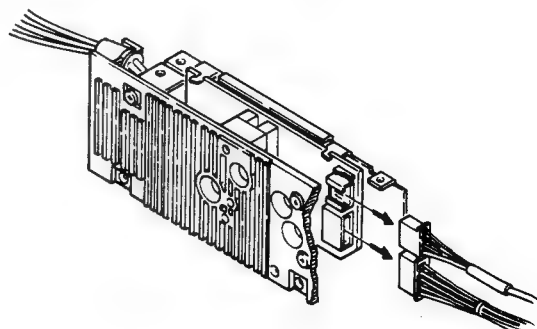

Fig. 6
2. Disconnect the two connectors. (Fig. 6)